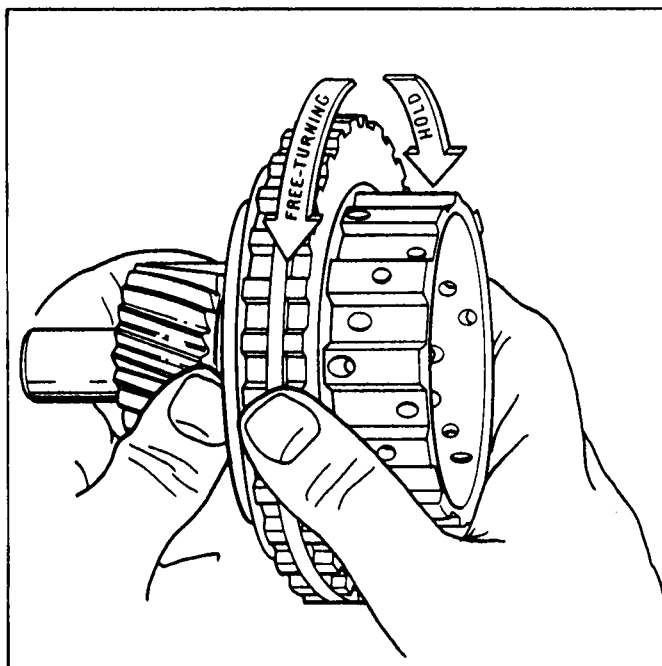

Figure 76
19. Hold the sun gear in your left hand as shown in Figure 76. If the low sprag is assembled properly, the outer race will free-wheel toward you and lock when turned away from you, as shown in Figure 76.